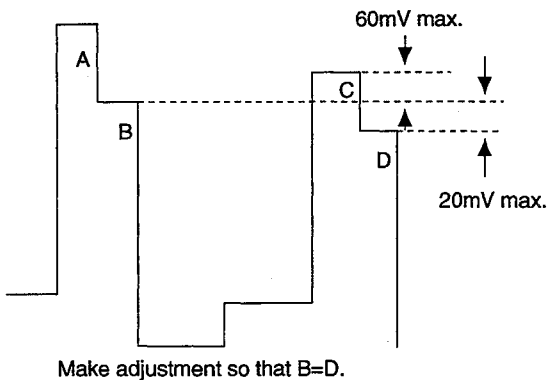

Fig. 5-20
- 2) Connect the probe of an oscilloscope to IC404 ④⑨PIN or TP401.
- 4) Adjust **R-Y LEVEL PAL** so that the peaks of waveforms will be flush with each other as shown Fig.5-20.